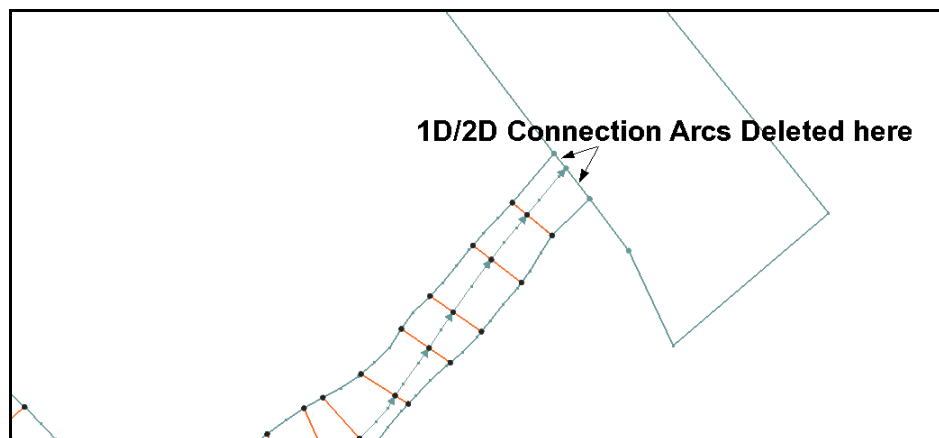

Figure 15 Location of deleted 1D/2D connection arcs on downstream end.
2. Select then *Delete*, the two most downstream 1D/2D connection arcs (Figure 15).